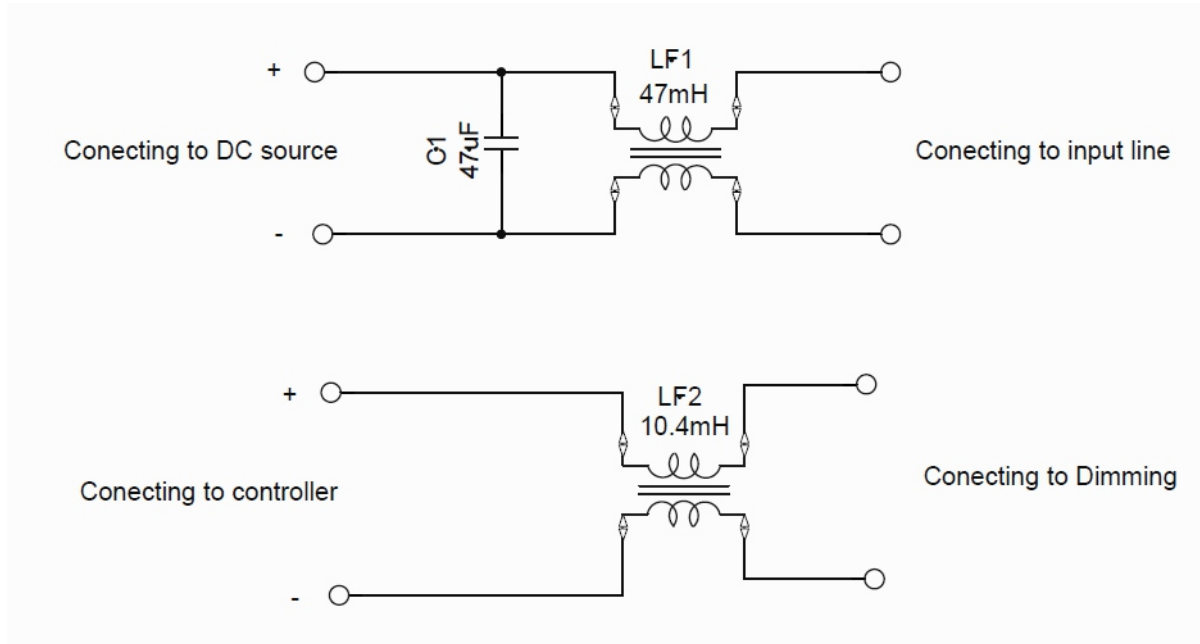

Figure 1
2. If LDH-45 is powered by DC Bus, additional EMC filter parts shall be added to meet BS EN/EN55015. The recommended circuit is shown in Figure1